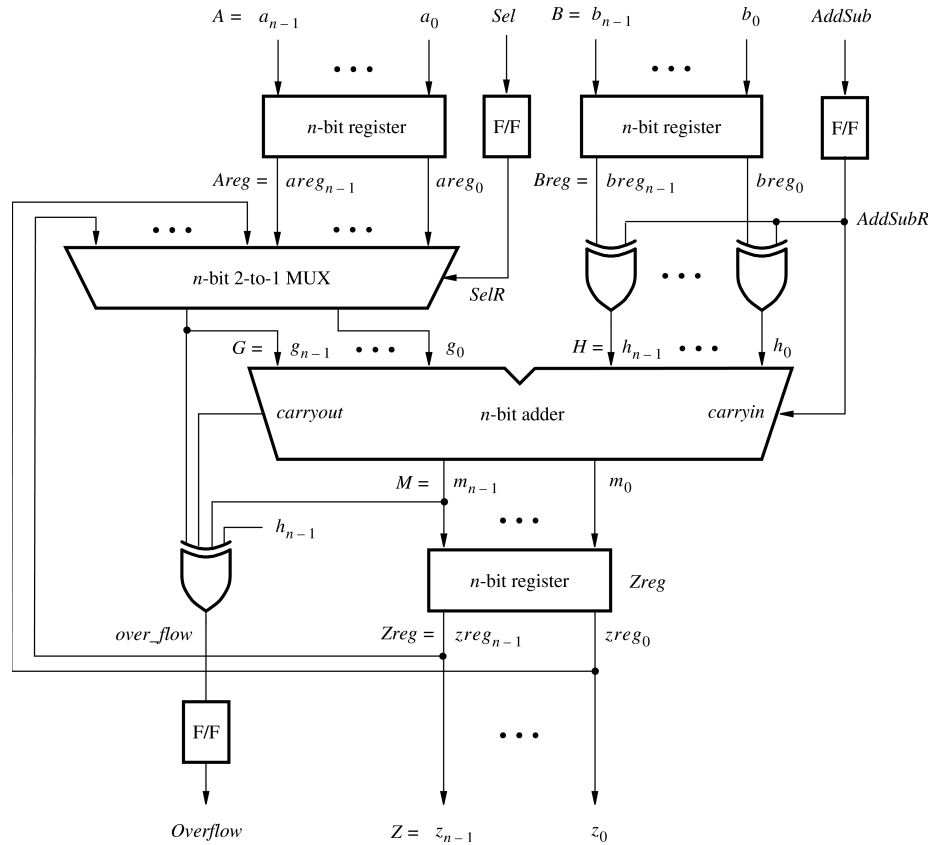
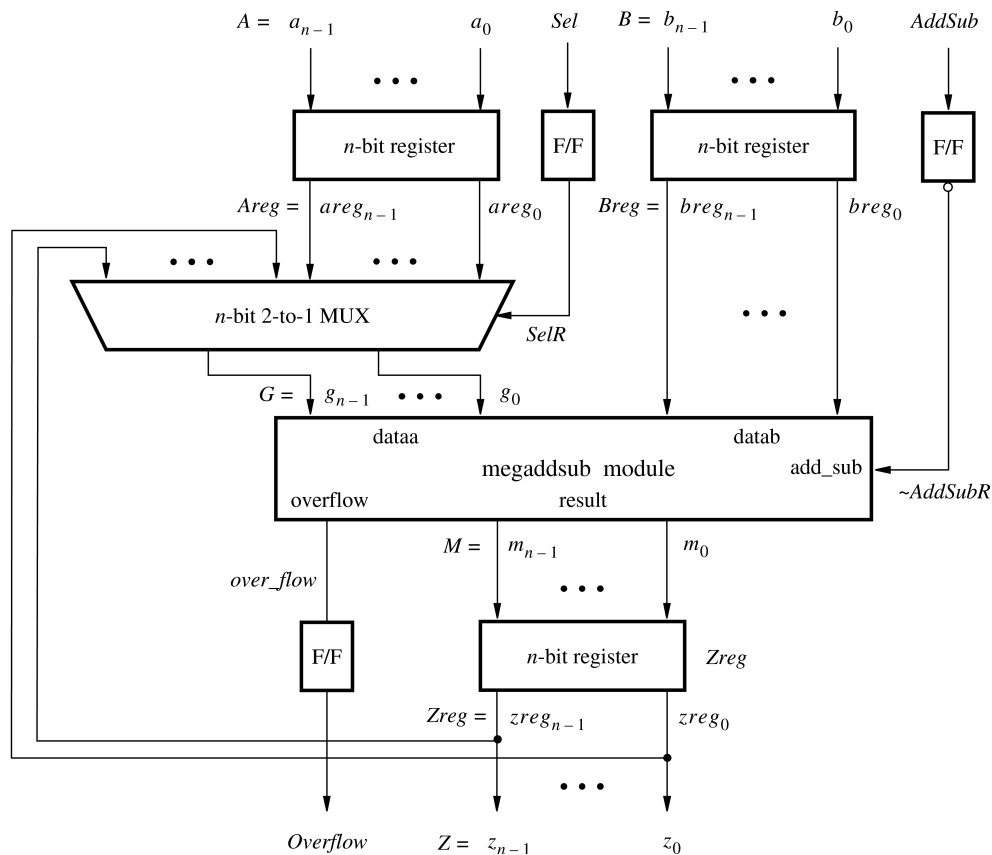
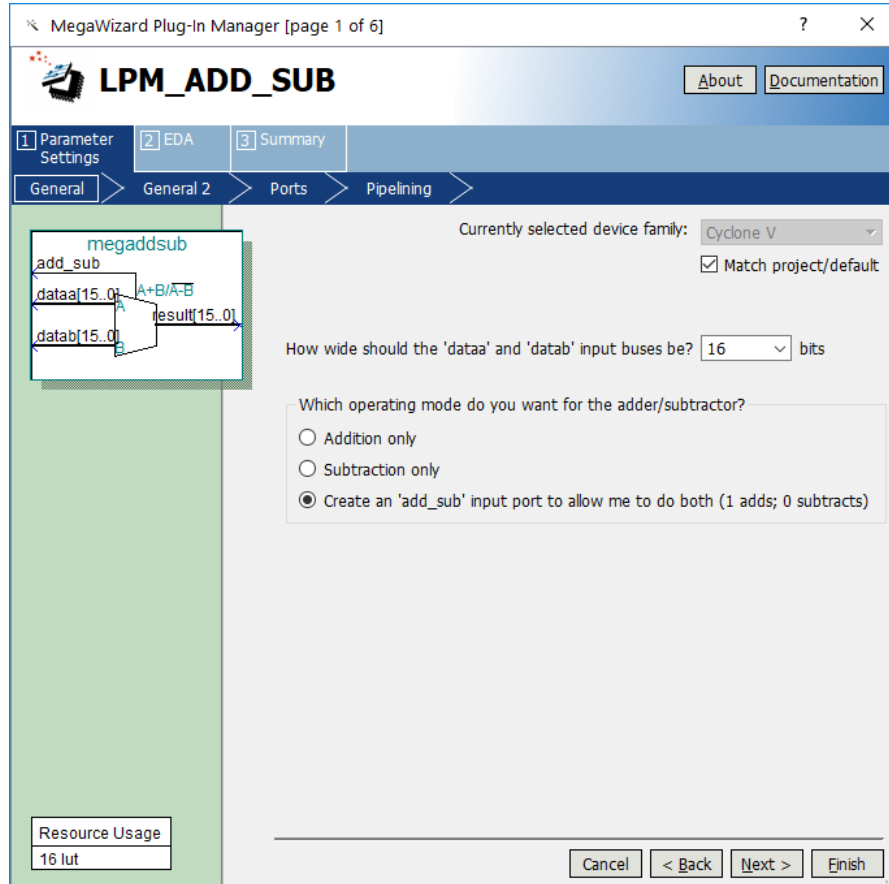

Figure 1. The adder/subtractor circuit.
Figure 3. The augmented adder/subtractor circuit.
Figure 6. Specify the size of data inputs.
As an example, we will use the adder/subtractor circuit shown in Figure 1. It can add, subtract, and accumulate n -bit numbers using the 2's complement number representation. The two primary inputs are numbers $A = a_{n-1}a_{n-2}\cdots a_0$ and $B = b_{n-1}b_{n-2}\cdots b_0$, and the primary output is $Z = z_{n-1}z_{n-2}\cdots z_0$. Another input is the *AddSub* control signal which causes $Z = A + B$ to be performed when *AddSub* = 0 and $Z = A - B$ when *AddSub* = 1. A second control input, *Sel*, is used to select the accumulator mode of operation. If *Sel* = 0, the operation $Z = A \pm B$ is performed, but if *Sel* = 1, then B is added to or subtracted from the current value of Z . If the addition or subtraction operations result in arithmetic overflow, an output signal, *Overflow*, is asserted.
The LPMs in the IP Catalog are general in structure and they can be configured to suit a specific application by specifying the values of various parameters. We will use the *lpm_add_sub* module to simplify our adder/subtractor circuit defined in Figures 1 and 2. The augmented circuit is given in Figure 3. The *lpm_add_sub* module, instantiated under the name *megaddsub*, replaces the adder circuit as well as the XOR gates that provide the input *H* to the adder. Since arithmetic overflow is one of the outputs that the LPM provides, it is not necessary to generate this output with a separate XOR gate.
- In the box in Figure 6 specify that the width of the data inputs is 16 bits. Also, specify the operating mode in which one of the ports allows performing both addition and subtraction of the input operand, under the control of the *add_sub* input. A symbol for the resulting LPM is shown in the top left corner. Note that if $add_sub = 1$ then $result = A + B$; otherwise, $result = A - B$. This interpretation of the control input and the operation performed is different from our original design in Figures 1 and 2, which we have to account for in the modified design. Observe that we have included this change in the circuit in Figure 3. Click Next.
- The *adderk* entity, which specifies the adder circuit, is replaced by *megaddsub* entity. Note that the *dataa* and *datab* inputs shown in Figure 6 are driven by the *G* and *Breg* vectors, respectively.